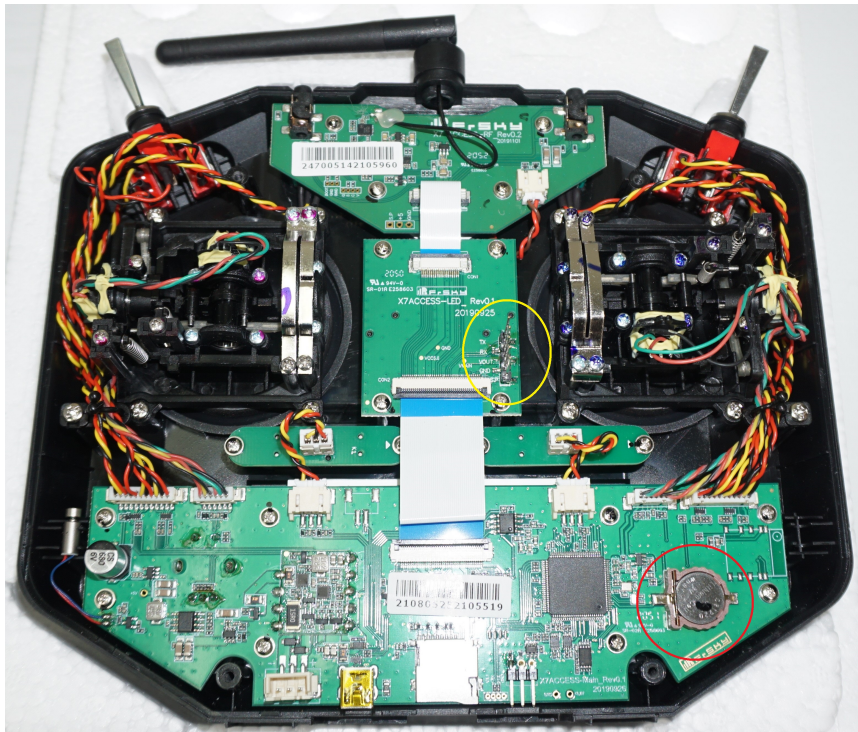

Figure 67: RCU RTC Location
10. Carefully put the two case halves together. Verify the module bay pins (circled yellow in Figure 67) slide through the slot (Figure 16).